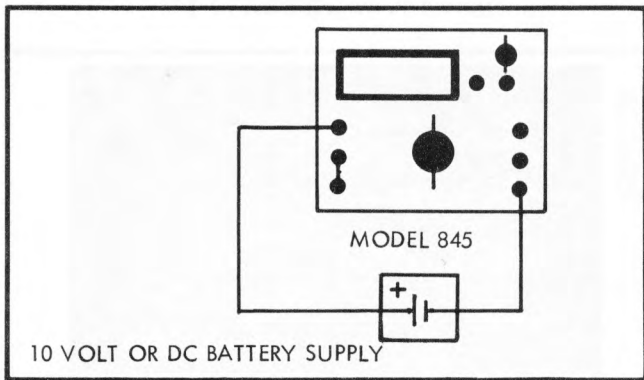

Figure 4-11. LEAKAGE RESISTANCE TEST EQUIPMENT CONNECTIONS
- a. Connect the equipment as illustrated in Figure 4-11.